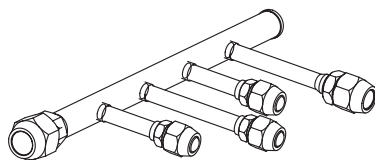

Fig.4
2. Take the DXFQT4-02(DZ) gas side as an example, the operation steps are as follows:
- The DXFQT4-02(DZ) structure is displayed in Fig.4.